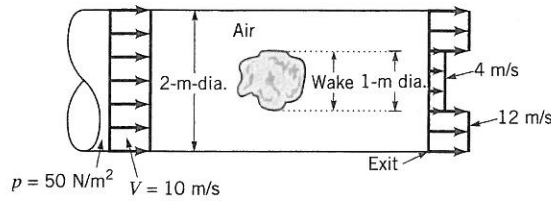

Figure P5.129
**5.129**  Air flows past an object in a pipe of 2-m diameter and exits as a free jet as shown in Fig. P5.129. The velocity and pressure upstream are uniform at 10 m/s and  $50 \text{ N}/\text{m}^2$ , respectively. At the pipe exit the velocity is nonuniform as indicated. The shear stress along the pipe wall is negligible. (a) Determine the head loss associated with a particle as it flows from the uniform velocity upstream
■ Figure P5.129
**129**  Air flows past an object in a pipe of 2-m diameter and exits as a free jet as shown in Fig. P5.129. The velocity and pressure in the uniform stream are 10 m/s and  $50 \text{ N}/\text{m}^2$ , respectively. At the exit the velocity is nonuniform as indicated. The shear stress along the pipe wall is negligible. (a) Determine the head loss associated with a particle as it flows from the uniform velocity upstream